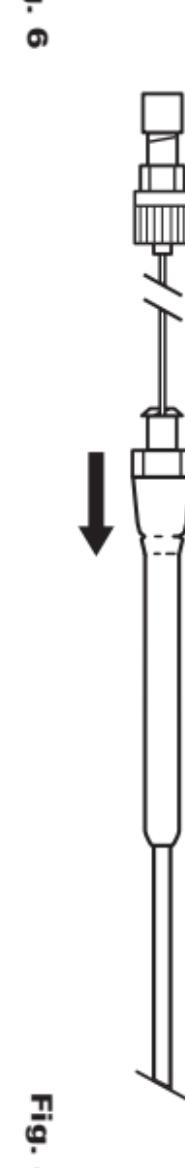

Fig. 7
- a. Partially insert the appropriate stiffening cannula into catheter for support. (**Fig. 7**)